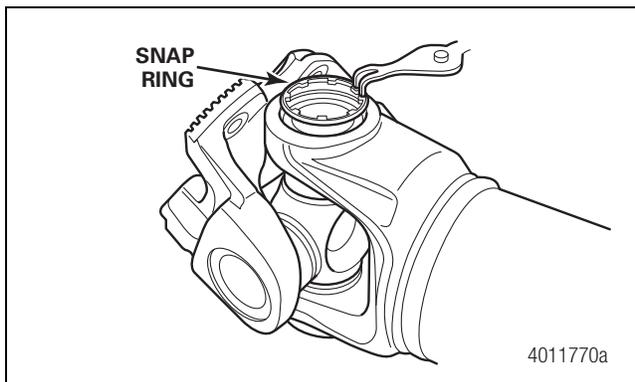

Figure 4.75
- Install the snap ring. If necessary, use a drift and hammer help seat the snap ring in the groove. If the snap ring will not seat correctly, make sure the snap ring groove is clean and free of debris. Figure 4.75.